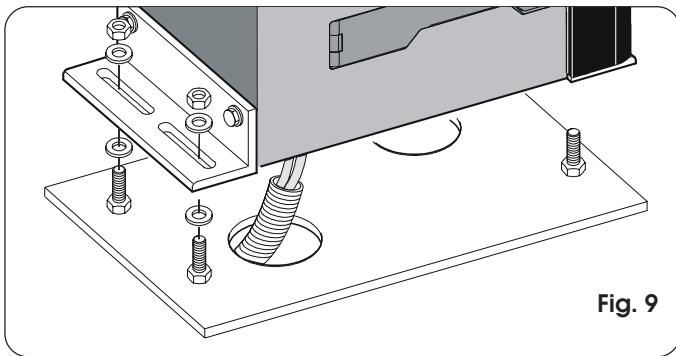
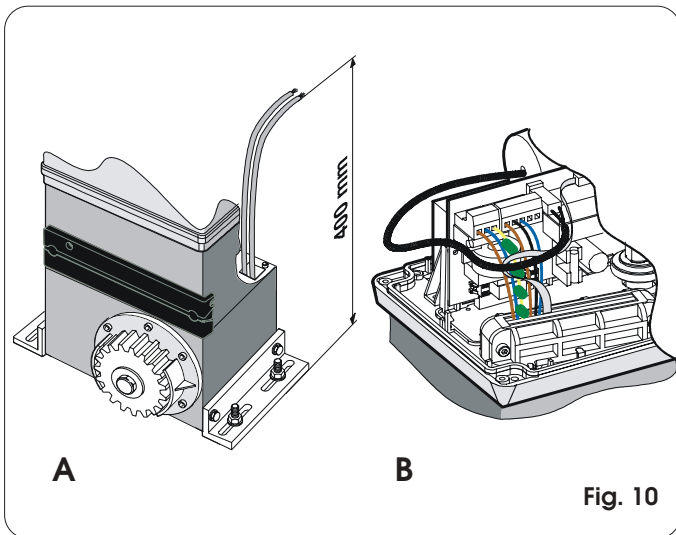

Fig. 9
Fig. 10
- 3) Place the operator on the plate, using the supplied washers and nuts as shown in Fig. 9. During this operation, route the cables through the duct inside the lower half-casing of the operator (Fig. 10 - Ref. A). To access the electronic equipment, route the cables through the appropriate hole, using the supplied rubber cable-clamp. Make absolutely sure to unsheath all the cables so that the clamp holds single cables only (Fig. 10 - Ref. B).